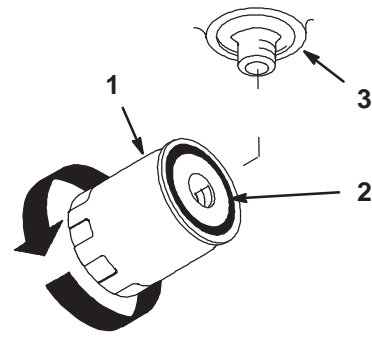

Figure 57
3. Place drain pan under filter, remove the old filter and wipe the filter adapter gasket surface clean (Fig. 57).
4. Apply a thin coat hydro fluid to the rubber gasket on the replacement filter (Fig. 57).
6. Fill the hydraulic tank with hydraulic fluid until the fluid overflows the filter and then turn the oil filter clockwise until the rubber gasket contacts the filter adapter, then tighten the filter an additional 1/2 turn (Fig. 57).